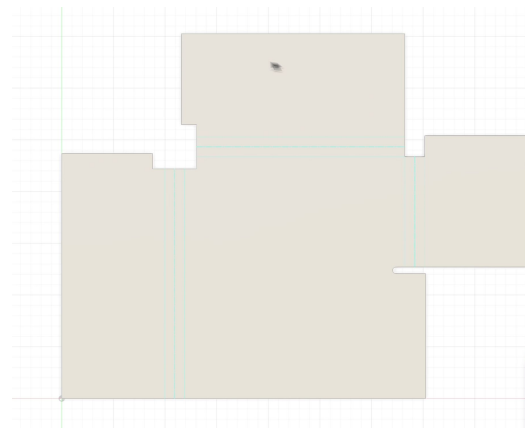

Figure 1.16
3. Click OK, the part unfolds, showing bend lines, radii, and reliefs (see Figure 1.16).